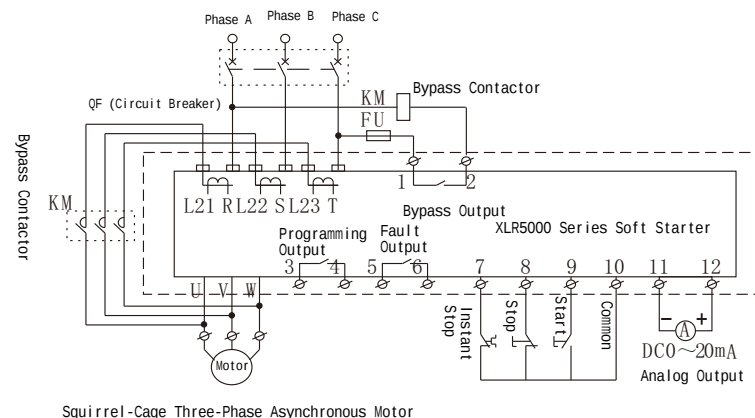

Figure 6
g) Terminals ⑪ and ⑫ are 0~20mA DC Analog Output: Used for real-time monitoring of motor current. A full-scale 20mA output indicates 4 times the motor's nominal rated current. A 0~20mA DC ammeter can be connected externally for observation. The maximum load resistance for this output is 300Ω. Terminals ⑬ and ⑭ are 0~20mA DC Analog Output: Used for real-time monitoring of motor current. A full-scale 20mA output indicates 4 times the motor's nominal rated current. A 0~20mA DC ammeter can be connected externally for observation. The maximum load resistance for this output is 300Ω.
4. Simplified Wiring Diagram of Soft Starter (See Figure 6):